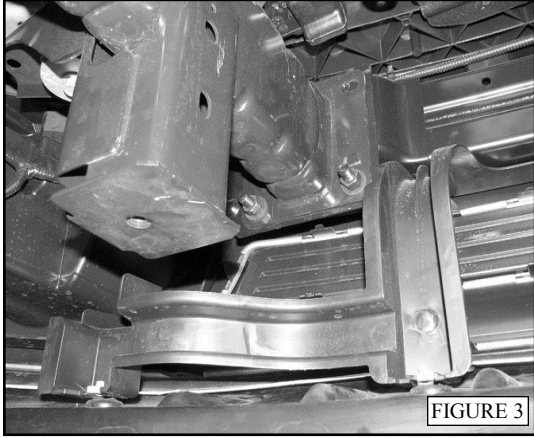

FIGURE 3
- If the vehicle is not equipped with tow hooks, install the upper frame mounting brackets the driver side bumper mounting bracket using (2) M12 x 1.5 hex bolts and factory bumper bracket nuts. (FIGURE 3)